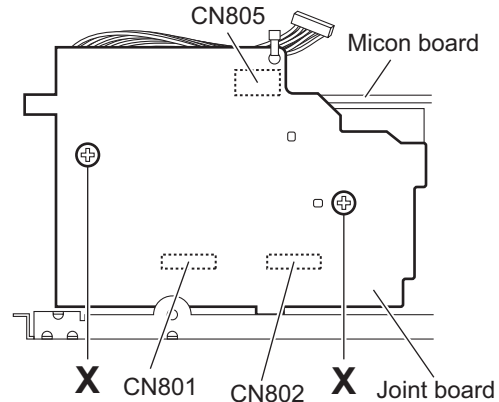

Fig.18
3.1.14 Removing the joint board (See Fig.18)